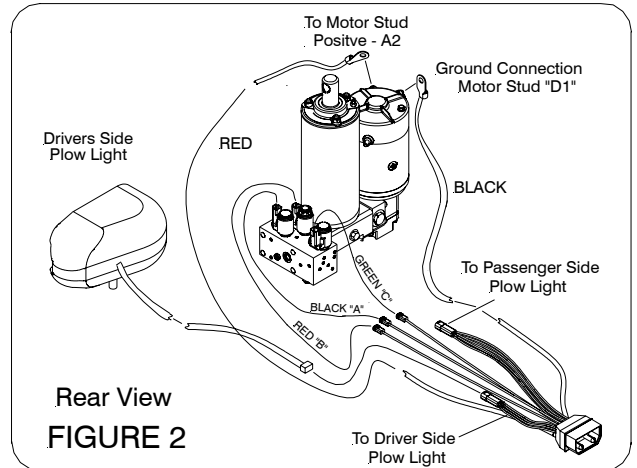

Figure 2
- Remove shipping plug from filler hole and install Relief Valve Kit (11). Tighten to 100-125 in. lbs.
- Install the Female socket (6) of the Harness Plug assembly. Attach power cables to the Hydraulic Lift Unit (1). Attach the red (+) cable to the motor stud marked (A2). Attach the black (-) cable to the motor stud marked (D1). Connect the red, black and green wires from female socket (6) and connect to solenoids on the Power Angling Block. See Figure 2.
Connect both male ends from the snow plow light to the female ends on the Female Socket (6). As per Figure 2.